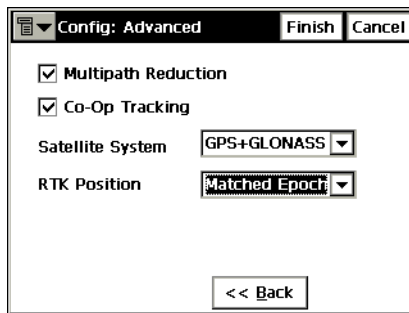

Figure 3-16. Config: Advanced
14. Set advanced parameters for the survey (Figure 3-16).